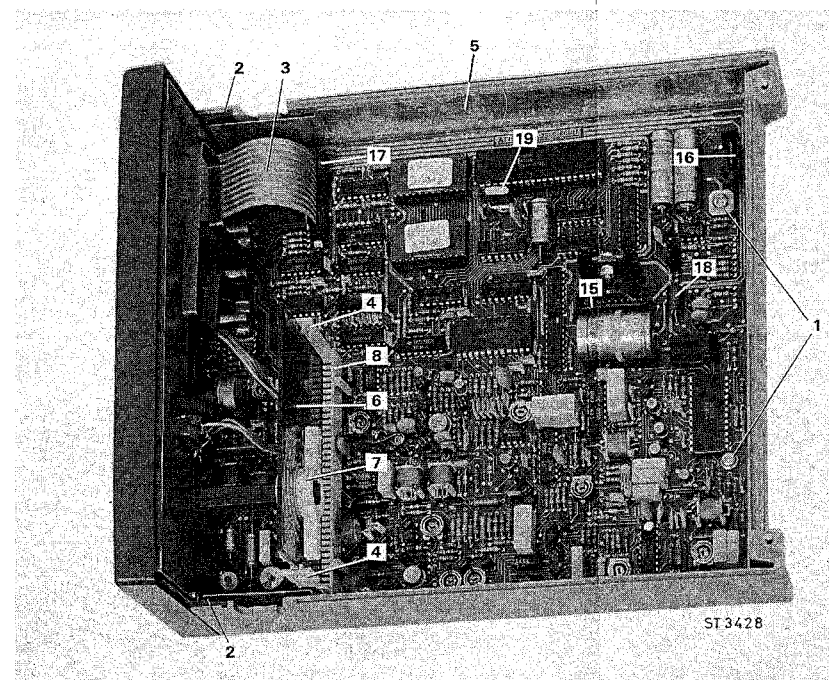

Fig. 42. Removing the bottom cover and front
#### 2.1.2. Removing the bottom cover. (fig. 42)
- Remove the two fixing screws which attach the printed-circuit board to the bottom cover. (fig. 42 item 1).
- Bend out the two hooks of the front plate. (fig. 42 item 2).
- Disconnect the flexible print from the connector X1901. (fig. 42 item 3).
### 2.2.2. Function switch. (fig. 42)
- Bend out the two hooks and remove the printed-circuit board. (fig. 42 item 4).